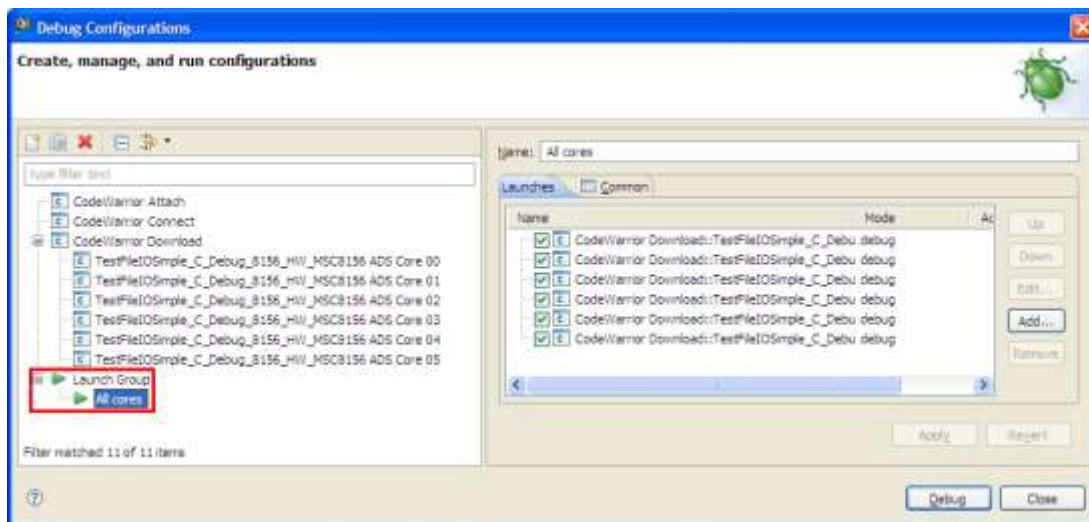

Figure 7. Making a Launch Group That Runs All Six Cores.
- Go back to the **Debug Configuration** window and make a new launch group, All cores, that runs all six cores simultaneously (Figure 7).